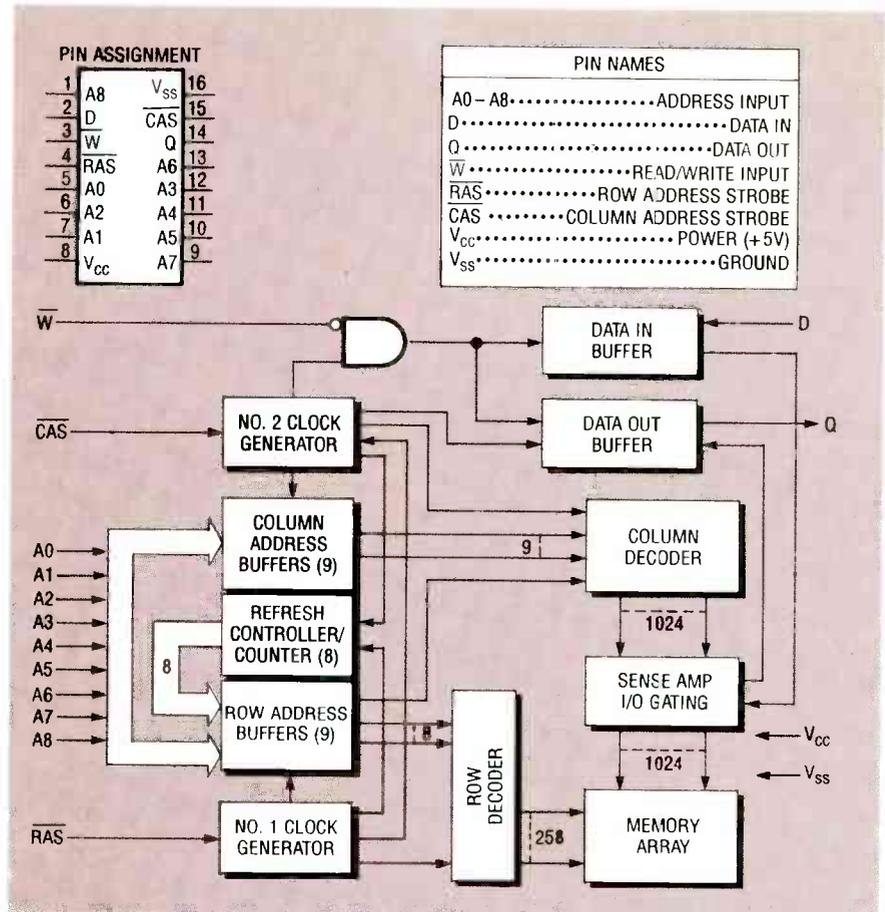
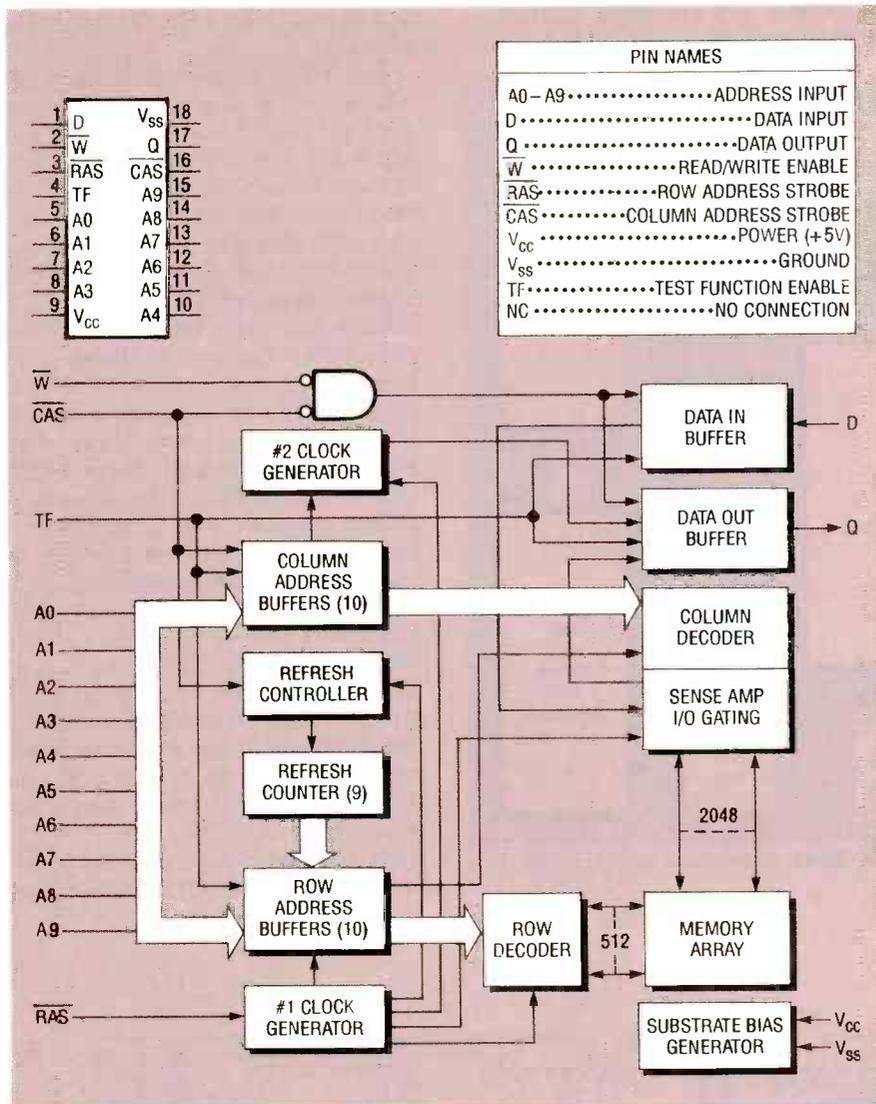

FIG. 1—256K DRAM PIN NAMES AND BLOCK DIAGRAM. DRAM's use multiplexed row and column address inputs; this 256K DRAM requires 9.
FIG. 2—1 MEG DRAM PIN NAMES AND BLOCK DIAGRAM. Address decoding and address latches are incorporated in the DRAM.
**Lamp Holders.** For indicators and projects. Figs. 1 and 2 accept E-10 threaded-base bulbs, available at Radio Shack.
DRAM's use multiplexed row and column address inputs; 64K DRAM's require only 7 address lines, 256K DRAM's require 9, and 1-MEG DRAM's require 10. Figure 1 shows a block diagram of a typical 256K × 1 DRAM, and Fig. 2 shows a typical 1-MEG DRAM. Address decoding and address latches are incorporated in the DRAM. To address the DRAM, row-address data is put on all address lines and clocked by the *RAS* (row address strobe) signal, then the column address data is put on the address lines and clocked by the *CAS* (column address strobe) signal. DRAM's have a *READ/WRITE* input pin, usually labeled  $\bar{w}$ , to control the type of operation; a *DATA IN* pin, *D*; and a *DATA OUT* pin, *Q*.